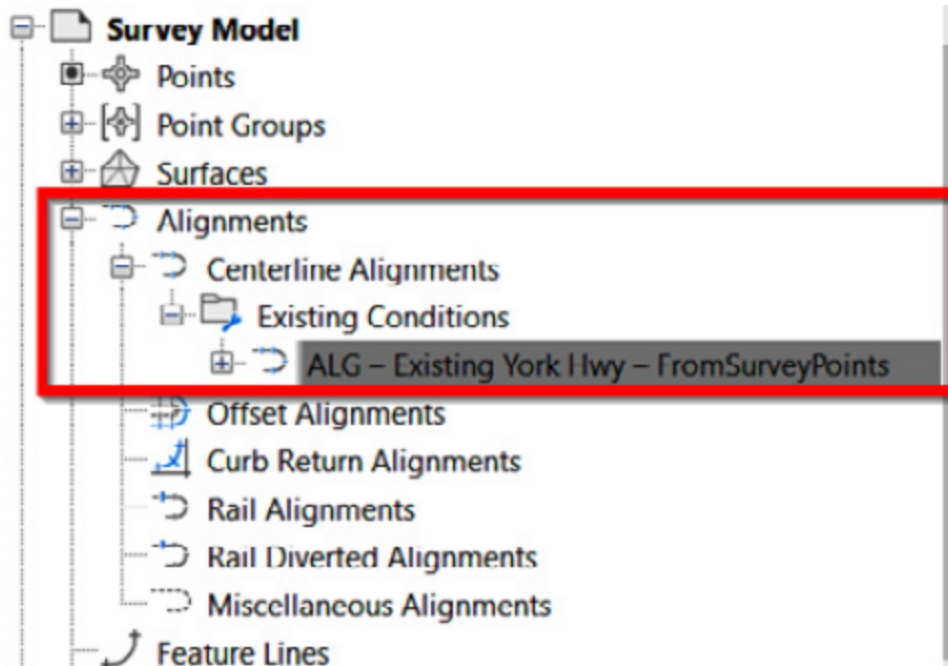

Figure 7.11 – Centerline alignment organization
9. Drag and drop our **ALG - Existing York Hwy - FromSurveyPoints** alignment into the **Existing Conditions** folder we just created (the final organization should look similar to that shown in *Figure 7.11*):